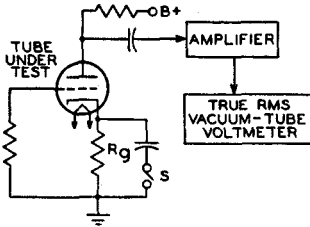

Fig. 105—Test circuit for measuring hum and noise characteristics of high-fidelity audio-amplifier tubes.
**Hum and noise** characteristics of high-fidelity audio amplifier tube types such as the 7025 and the 7199 are tested in an amplifier circuit such as that shown in Fig. 105. The output of the test circuit is fed into a low-noise amplifier. The bandwidth of this amplifier depends on the characteristic being measured. If hum alone is being tested, a relatively narrow bandwidth is used to include both the line frequency and the major harmonics generated by the tube under test. In noise or combination hum-and-noise measurements, the